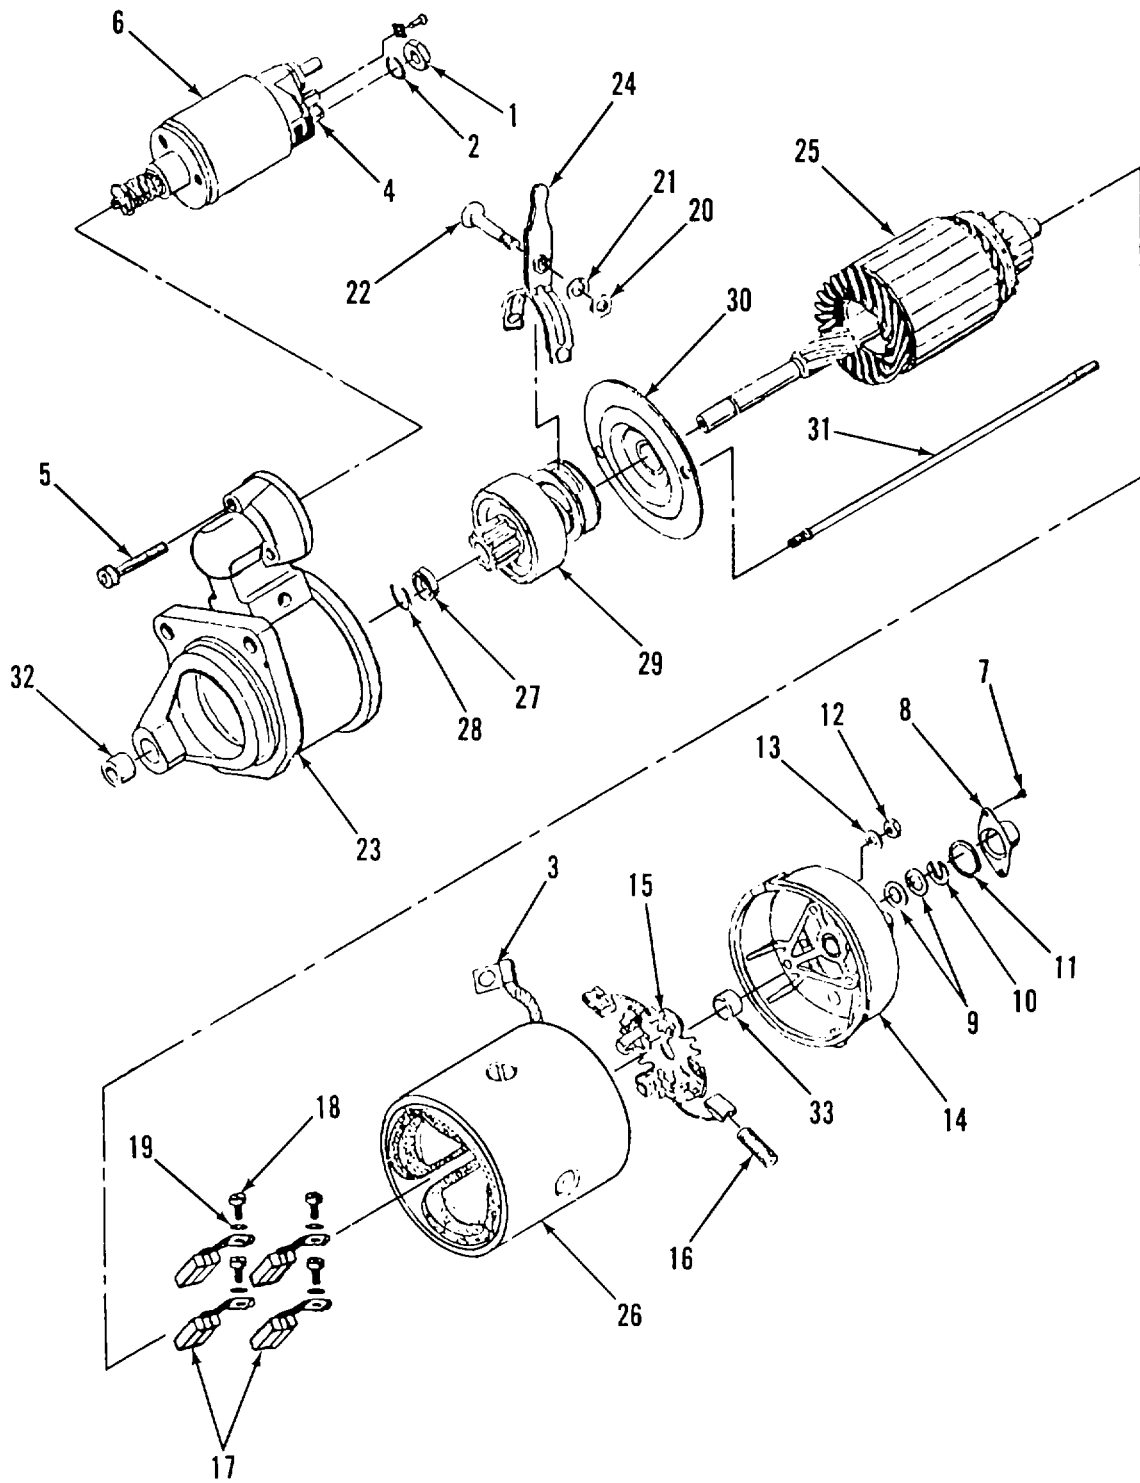

Figure 3-19. Starter Assembly
a. DISASSEMBLE. (Figure 3-19)
- (1) Remove nut (1), washers (2), and winding terminal wire (3) on solenoid terminal (4).
- (2) Remove screws (5) and solenoid assembly (6).
- (3) Remove screws (7), end cap (8), washers (9), slotted washer (10), and seal (11).
- (4) Remove nuts (12), washers (13), and end housing (14).
- (5) Remove brushes from brush assembly as follows:
- (a) If first time replacement of brushes, cut wires of two brushes from brush assembly (15). Cut wires at other two brushes from winding of commutator (26). Then bend back brush holders on brush assembly and remove springs (16) and brushes (17).
- (b) If not first time replacement, disconnect wires of brushes by removing screws (18) and washers (19). Then bend back brush holders on brush assembly and remove springs (16) and brushes (17).
- (6) Remove nut (20), washer (21), and bolts (22).
- (7) Remove drive gear housing (23) and gear lever (24).
- (8) Remove armature assembly (25) and commutator housing (26).
d. ASSEMBLE. (Figure 3-19)
(1) If removed, press bushing (33) into end housing (14).
(2) If removed, press bushing (32) into drive housing assembly (23).
(3) Install bearing (30), gear transmission assembly (29), and spacer (27) over shaft of armature (25) and install retainer (28). Pull spacer (27) up over retainer.
(4) Position gear lever (24) on gear transmission assembly (29) and guide drive gear housing (23) with studs (31) onto armature assembly (25).
(5) Install bolt (22), washer (21), and nut (20) to secure gear lever (24) to drive gear housing (23).
(6) Install studs (31) into drive housing assembly (23).
(7) Install armature assembly (25) into commutator housing (26).
(8) Install brushes (17) and springs (16) into brush assembly (15) and bend in brush holders. Connect wires of brushes to brush assembly (15) and winding of commutator (26) with washers (19) and screws (18). Install brush assembly (15) over armature assembly (25).
(9) Install end housing (14) with washers (13) and nuts (12).
(10) Install seal (11), washers (9), slotted washer (10), and end cap (8). Secure with screws (7).